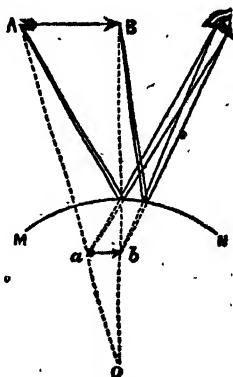

FIG. 8.
2. When the mirror is convex, the image will be placed as in Fig. 8, and is less than  $A B$  in the proportion  $b O$  to  $B O$ . It is here virtual.